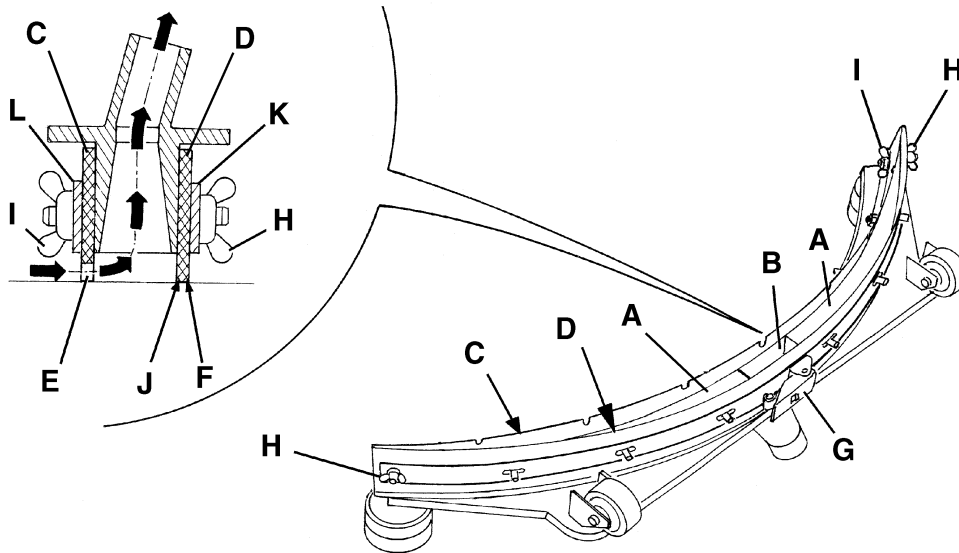
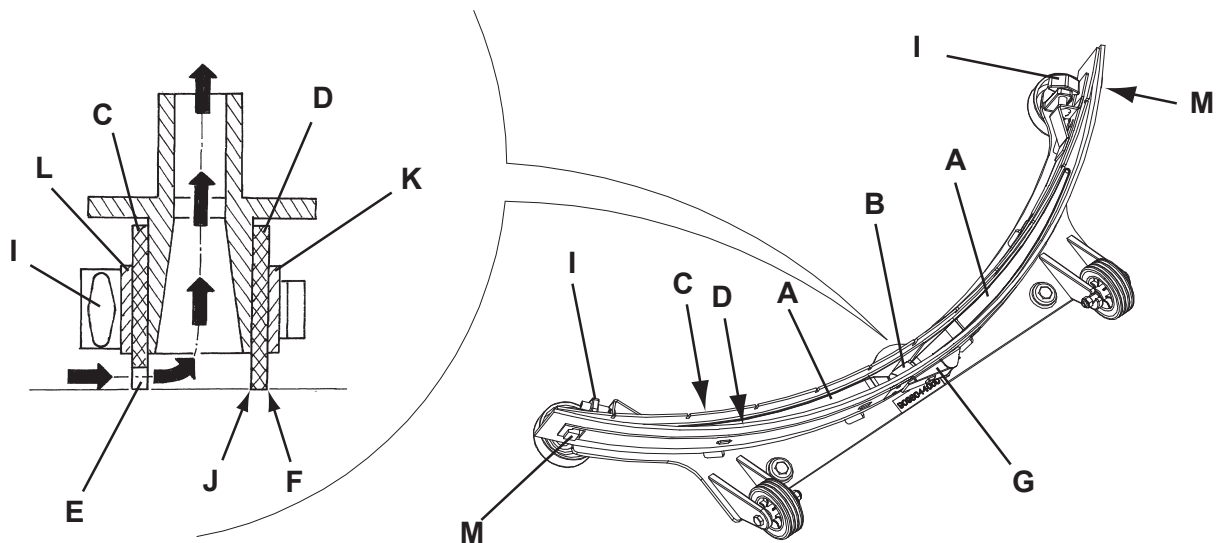

Figure 6
Figure 7
3. Lower the squeegee (25) with the lever (10).
4. Loosen the handwheels (26) and remove the squeegee (25).
5. Disconnect the vacuum hose (15) from the squeegee.
6. Clean the steel squeegee (Fig. 6) or the aluminium squeegee (Fig. 7). Clean the compartments (A, Fig. 6 or 7) and the hole (B) especially. Check the front blade (C) and the rear blade (D) for integrity, cuts and tears; if necessary replace them (see the procedure in the following paragraph).
1. Clean the steel squeegee (Fig. 6) or the aluminium squeegee (Fig. 7), according to the procedure shown in the previous paragraph.
2. Check that the edges (E, Fig. 6 or 7) of the front blade (C) and the edges (F) of the rear blade (D) lay down on the same level, along their length; otherwise adjust their height according to the following procedure:
- Release the tie rod (G, Fig. 6 or 7) and loosen the wing nuts (H, Fig. 6), or disengage the fasteners (M, Fig. 7) and adjust the rear blade (D, Fig. 6 or 7), then tighten the wing nuts, or engage the fasteners, and then engage the tie rod.
- Loosen the handwheels (I) and adjust the front blade (C, Fig. 6 or 7); then tighten the handwheels.
3. Check the front blade (C, Fig. 6 or 7) and rear blade (D) for integrity, cuts and tears; if necessary replace them according to the following procedure. Check the front corner (J) of the rear blade for wear; if necessary, overturn the blade to replace the worn corner with an integral one. If the other corners are worn too, replace the blade according to the following procedure:
- Release the tie rod (G), remove the wing nuts (H) or disengage the fasteners (M), remove the retaining strip (K), then replace/overturn the rear blade (D).
- Unscrew the handwheels (I) and remove the retaining strip (L), then replace the front blade (C).
4. Connect the vacuum hose (15) to the squeegee.
5. Install the squeegee (25) and screw down the handwheels (26).
6. If necessary, adjust the squeegee balance adjusting handwheel (27).